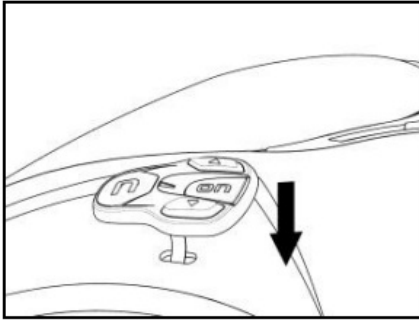

Fig. 4
- Pass the keypad flex through the hole in the outer shell (Fig. 4).